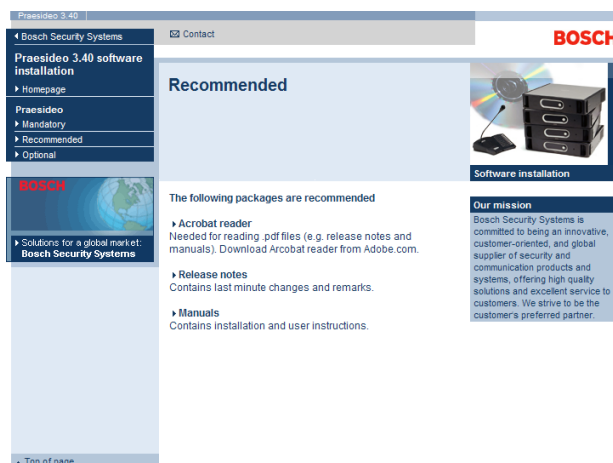

figure 37.1: Recommended software packages page
- 2 Click the *Recommended* link. A screen similar to the one in figure 37.1 appears.